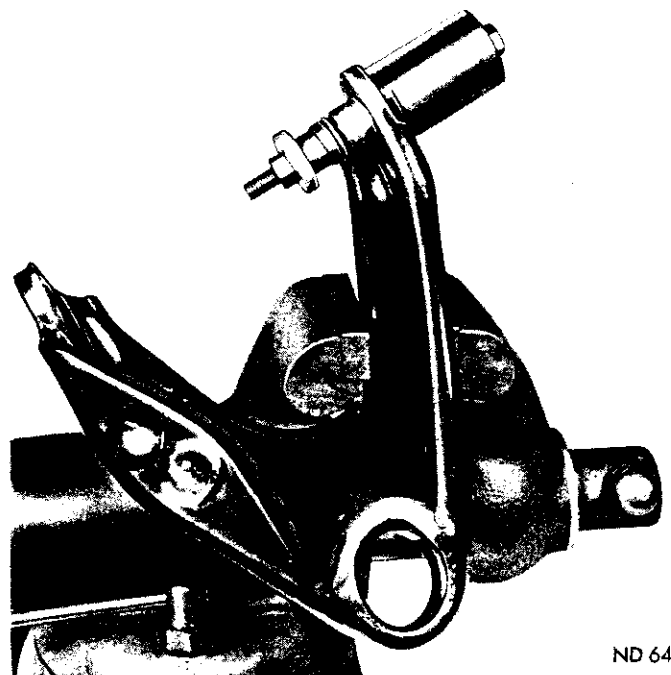

Fig. 21—Removing Upper Control Arm Bushing
(7) Assemble Tool C-3710A over bushing and press bushing out of arm (from inside out) (Fig. 21). To remove upper control arm rear bushing support sleeve (used on Dart models with 10 inch front brakes and police and taxi application) assemble Tool C-3710A, using adaptor SP-3826 in place of adaptor SP-3088, over bushing and press bushing out of arm (Fig. 21).